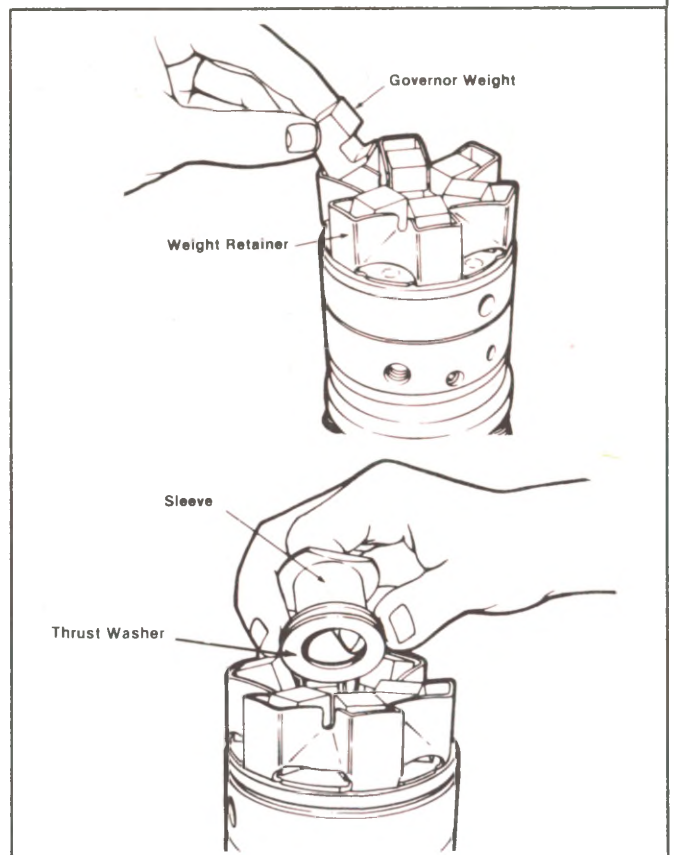

Fig. 3-21 Governor Weights, Thrust Washer and Sleeve.
5. Install governor weights, thrust washer (chamfered edge up) and thrust sleeve to the head and rotor assembly. Figure 3-21.